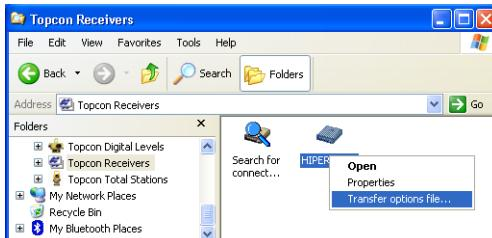

Figure 2-53. Selecting 'Transfer Options File' option
2. When finished, all receivers connected to computer ports will display (Figure 2-53). Right-click on the desired receiver and select the *Transfer options file* option.